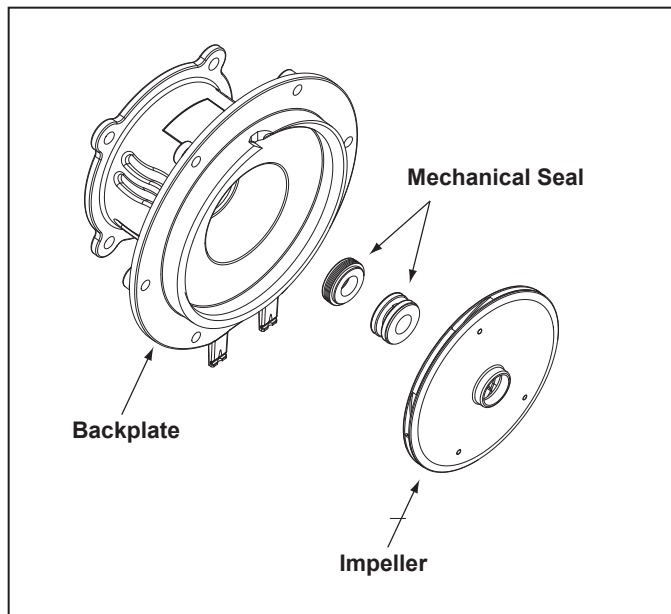

Figure 10. Backplate, Impeller and Mechanical Seal Location
**NOTE** This is a two (2) part replacement process. **The mechanical seal must be replaced as a set.**
**NOTE** Refer to Figure 10 for an illustration of the location of the mechanical seal and impeller.